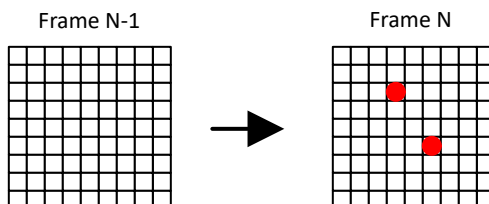

Figure 8-7. On Demand Data Refresh - Mode 1
**Mode 1:** 8-bit PWM data without VSYNC command. Data is sent out for display instantly after received. With Mode1, users can refresh the corresponding dots' data only instead of updating the whole SRAM. It is called 'on demand data refresh', which can save the total data volume effectively. As shown in Figure 8-7, the red LED dots can be refreshed after sending the corresponding data while the others kept the same with last frame.